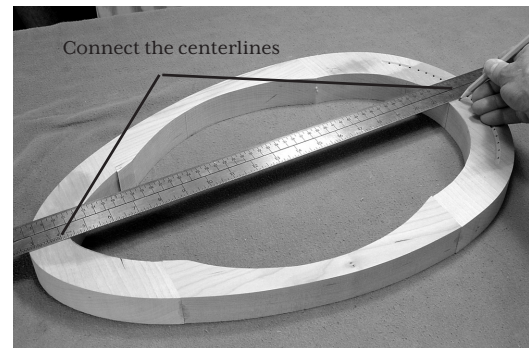

FIG. 3
- ___3. Draw a centerline down the top surface of the frame by connecting the centerlines at each end with a long straightedge, as shown. (fig. 3)